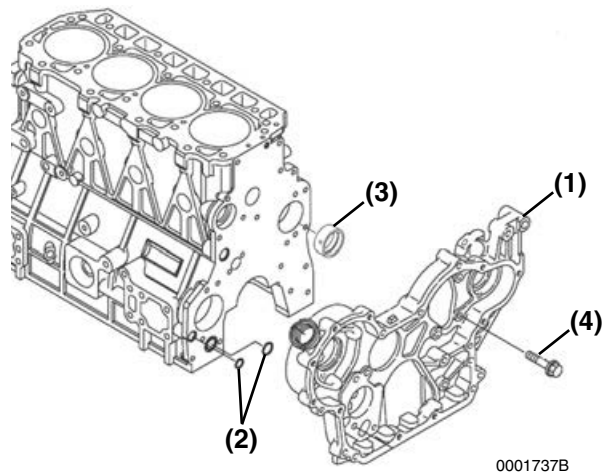

Figure 6-95
2. Remove the bolts (**Figure 6-95, (4)**).
3. Remove the gear case (**Figure 6-95, (1)**) or front plate from the cylinder block. Thoroughly clean all old sealant from the mating surfaces.
4. Inspect and measure the camshaft bushing. See *Camshaft* on page 6-10 for the service limit. If damaged or worn beyond service limits, remove the camshaft bushing (**Figure 6-95, (3)**).
5. **TNV94 - TNV106:** Remove two O-rings (**Figure 6-95, (2)**).